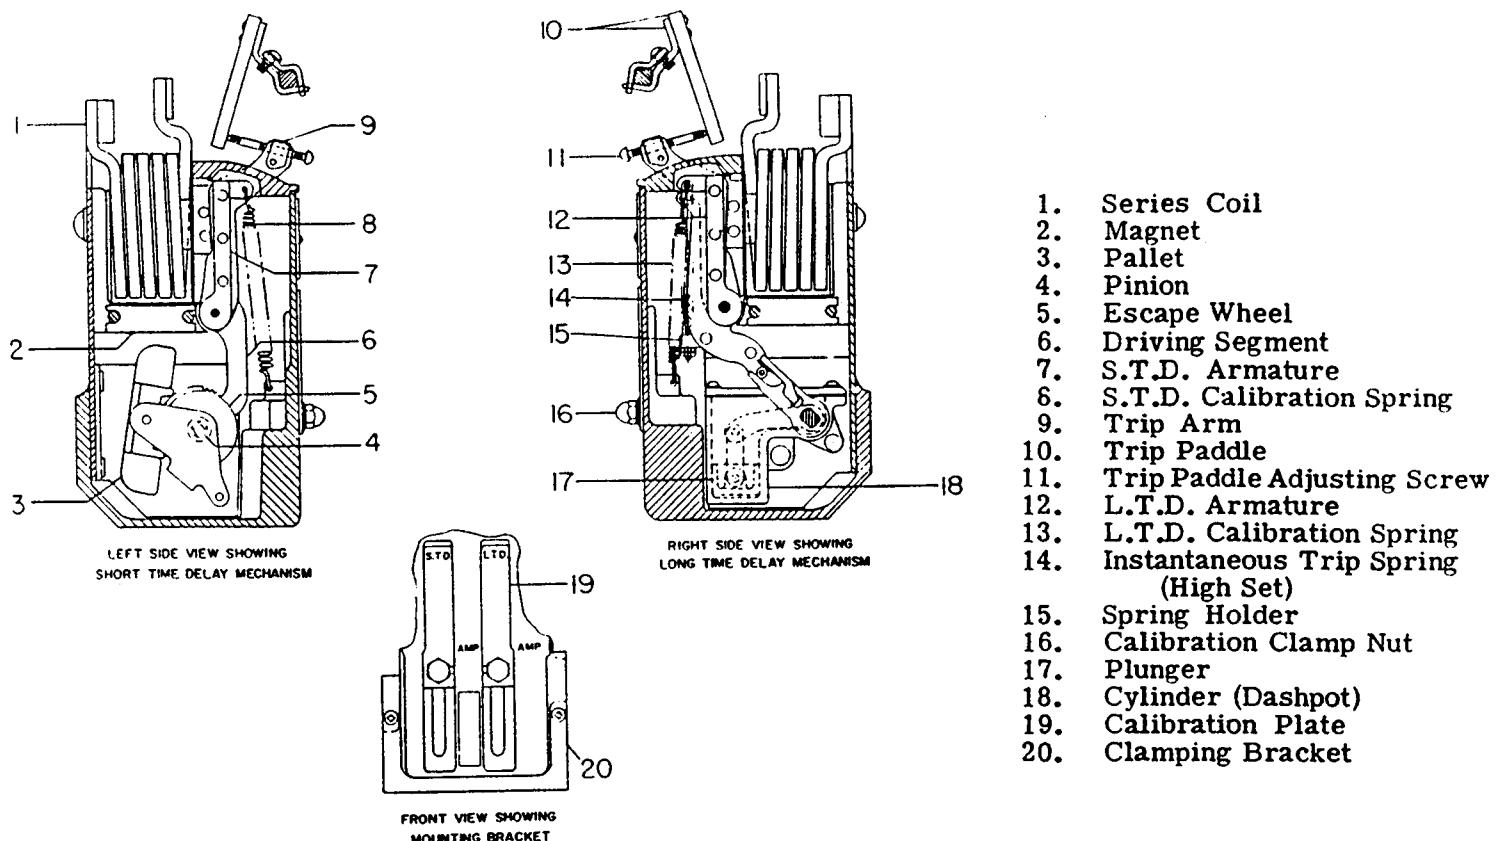

Figure 12. (695C189) EC-1 Type Overcurrent Trip Device
**SHORT TIME DELAY TRIPPING, Figure 12.**
**LONG TIME DELAY TRIPPING, Figure 12**
The armature (12), is retained by the calibration spring (13). After the magnetic force, produced by an overcurrent condition, overcomes this restraining force, the armature movement is further retarded by the flow of silicone oil in a dashpot, which produces an inverse time delay characteristic. The mechanism is shown in the right side view of Figure 12.
**INSTANTANEOUS TRIPPING, Figure 12.**
- a. Adjustable instantaneous tripping takes place after the magnetic force produced by an overcurrent condition, overcomes the restraining force of the adjustable calibration spring (13).
- b. Nonadjustable instantaneous tripping takes place after the magnetic force produced by an overcurrent condition overcomes the restraining force of a nonadjustable spring (14).